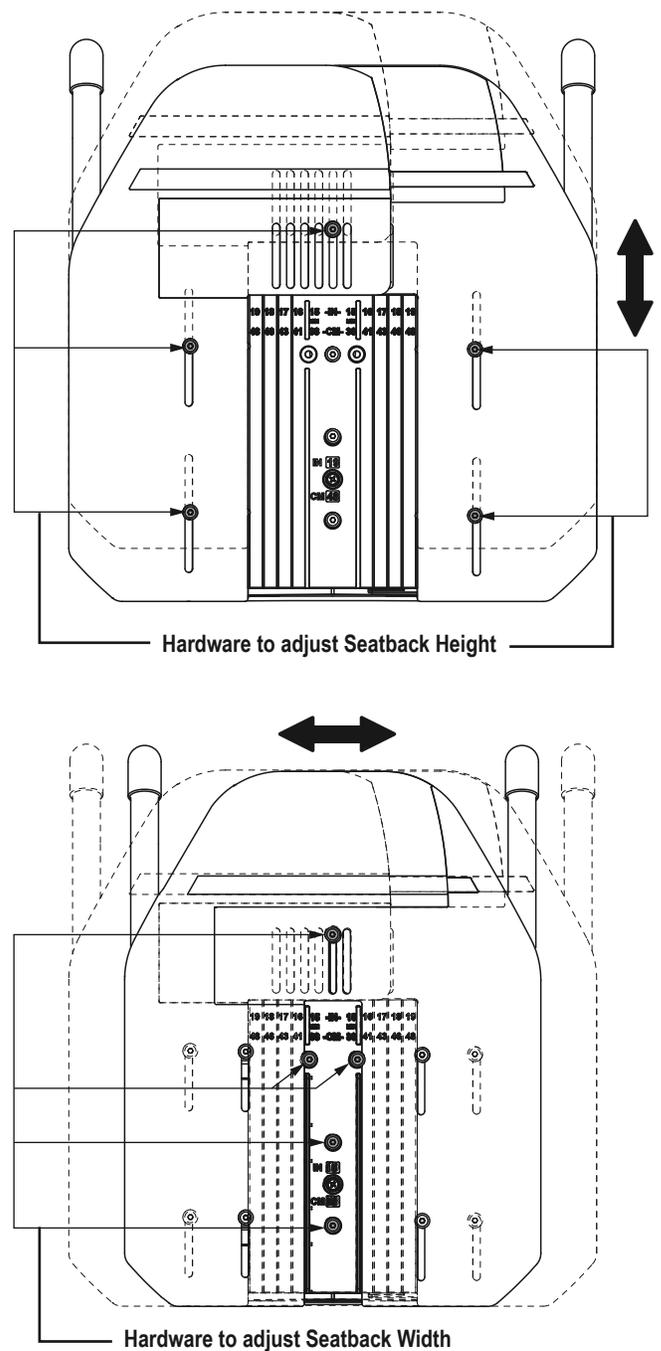

Figure 14. Height and Width Adjustments for TB-Flex Seatback
1. Loosen the hardware. **See figure 14.**